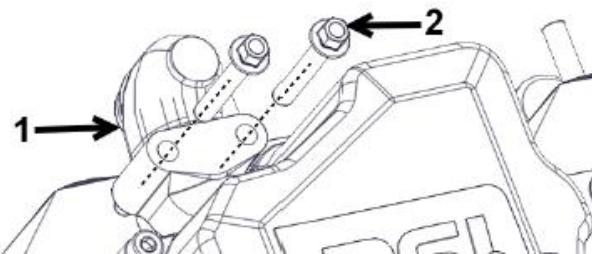

Figure 44.
1. Remove the two bolts (Figure 44, Item 2) from the pipe and remove the pipe (Figure 44, Item 1) from the cylinder head.